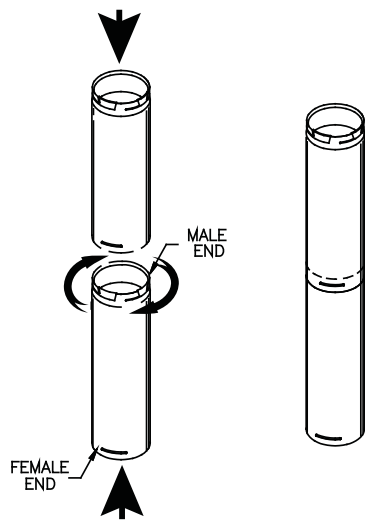
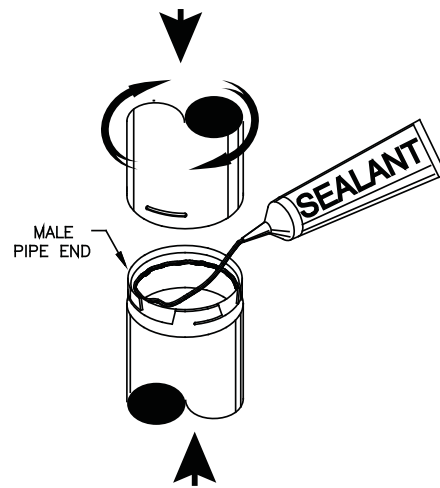

Figure 4
Figure 5
D. Connect Pipe Sections. Attach Secure Pellet Pipe Sections by pushing male and female ends of pipe together and twisting until pipe is in locked position (**Figure 4**). Pipe sections do not require any sealant; however in certain instances high temp silicone sealant may be used. Seal connection where the inner liners overlap for best results (**Figure 5**). Screws are not needed, but 1/4" screws can be used if desired, however, be sure you do not penetrate the inner liner.